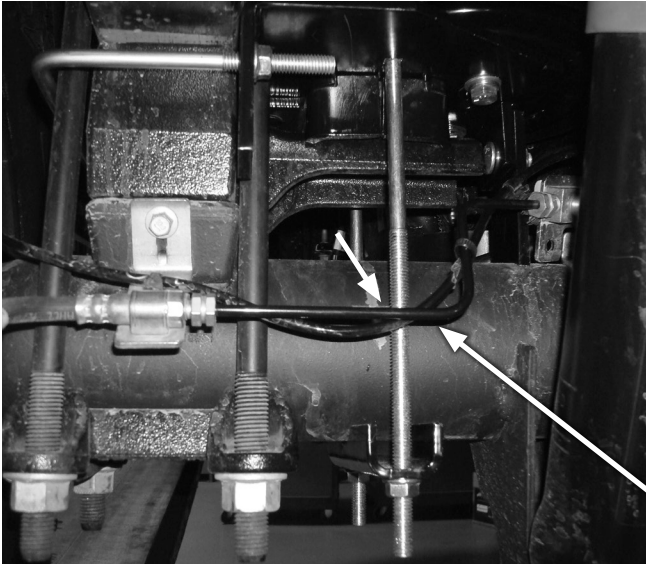
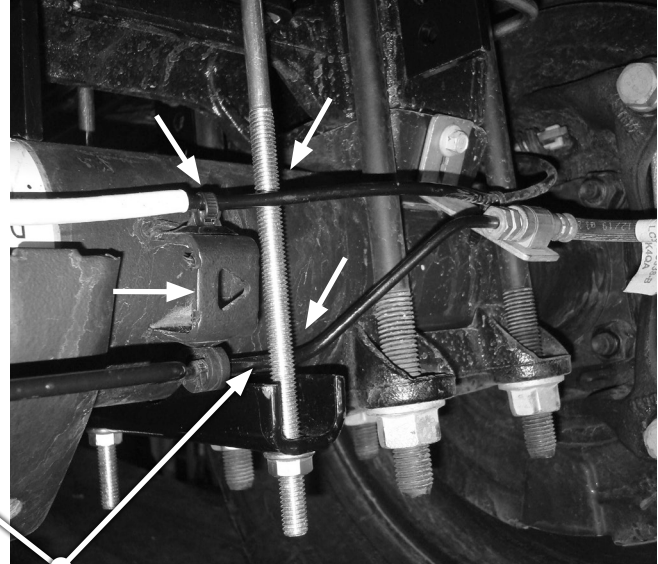

Fig. 33
Fig. 34
The flanges need to be oriented so that they lock around the truck's existing leaf spring U-bolts. On the driver's (left) side, the long carriage bolt in the lower bracket will be between the hard brake line and axle (Fig. 33). On the passenger's (right) side, the carriage bolt will be on the back side of the brake line (Fig. 34).
12. Once the lower brackets are secured, make sure that the brake and ABS lines are not rubbing against the lower bracket carriage bolt. It may be necessary to pull or push the hard brake line away and tie off the ABS line to gain clearance. Note: on the passenger's (right) side, it may be necessary to pull the ABS tree mount out of the top of the bracket. Re-attach by installing the tree mount to the back hole on the bracket and tie off with a zip tie if necessary (Fig. 33 & Fig. 34).